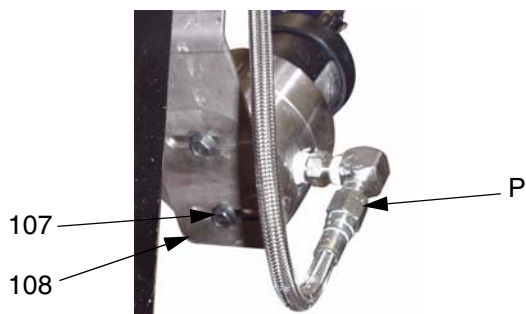
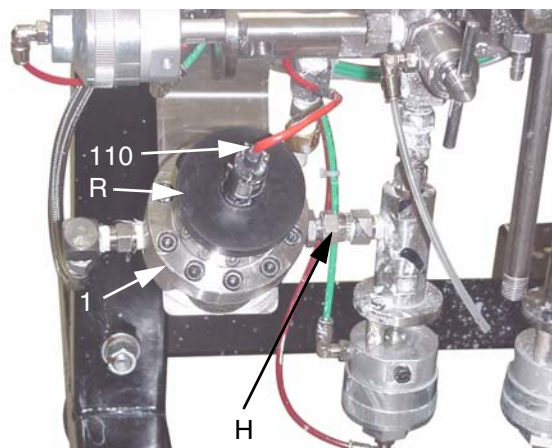

FIG. 26
FIG. 27
4. Unscrew cable connector (110) from meter (1). FIG. 27.
The meter shield (R) is unattached and may fall off when you remove the meter (1). FIG. 27.
5. Unscrew M6 screws (107) from bottom of meter mounting plate (108) with socket wrench. FIG. 26.
6. Unscrew fluid line from meter inlet (P).
7. Unscrew meter (1) from dispense valve connector (H). FIG. 27.